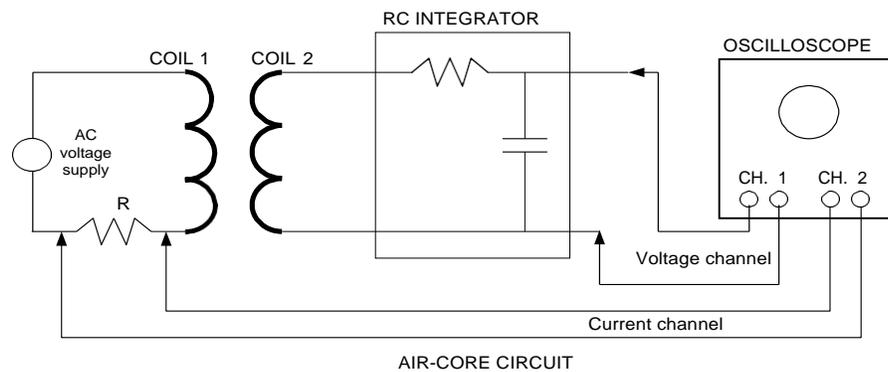

Figure 3.1
- (1) Connect the diagram shown in Figure 3.1 with air core.
- (2) Apply AC voltage (approx. 20 volts)
- (3) Put second coil together with the first one.
- (4) Adjust oscilloscope until the flux and current curves appear.
- (5) Use X-Y channel to obtain the hysteresis loop.